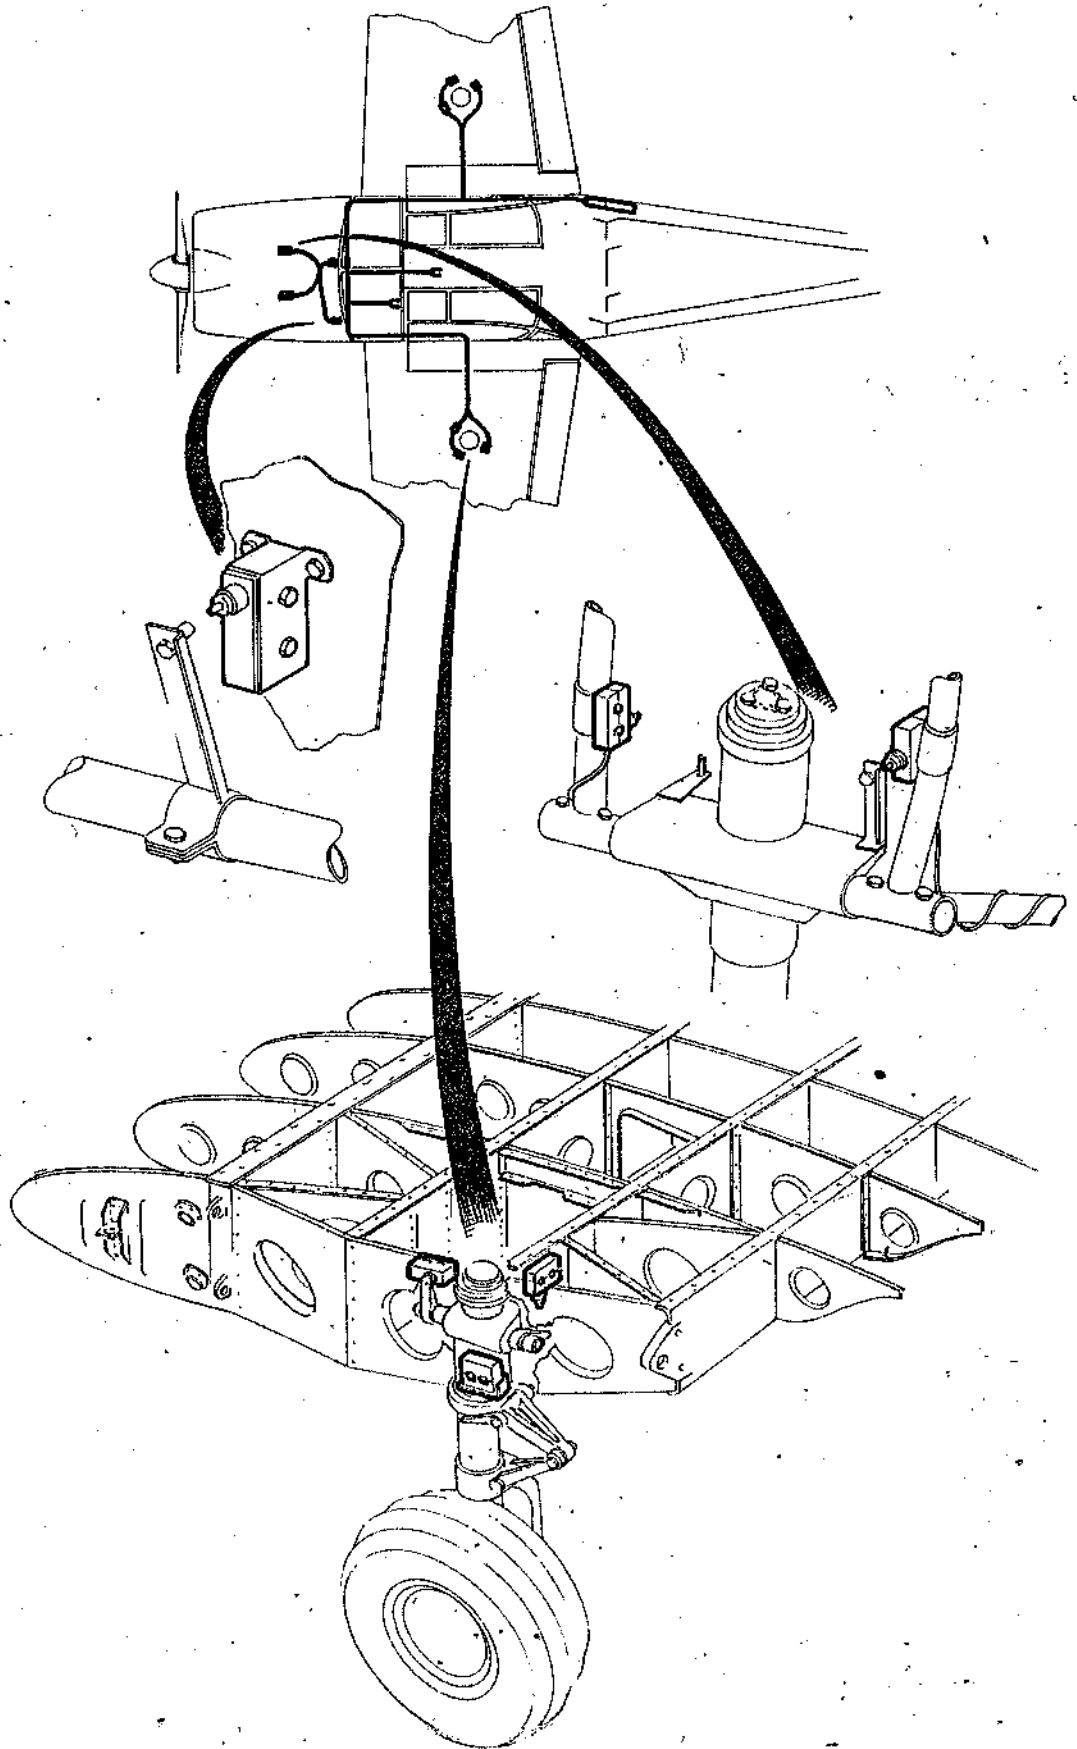

Fig. 5 - Gear actuating limiters.
(1) Motor control and actuating (fig. 5, 6 and 9)
- (2) Signalling the landing gear position (fig. 5, 6 and 9)
- (3) REDUCED ENGINE WARNING (fig. 5 and 9)